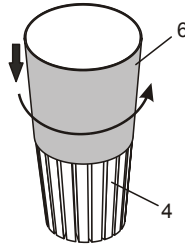

Fig. 3
5. Remove the old sanding sleeve and slide the new sanding sleeve (6) onto the roller (4) (Fig. 3).